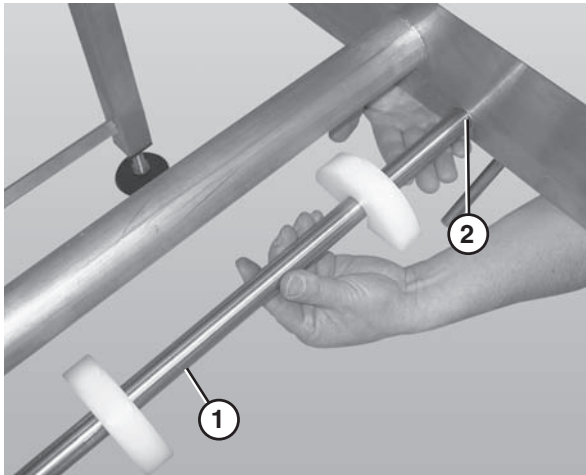

Figure 63
1. Remove the belt returns by pushing up on the return shaft (**Figure 63, item 1**) and sliding it through the large hole (**Figure 63, item 2**) in the frame.
2. Lower the opposite end of the return shaft (**Figure 63, item 1**) and slide it out of the frame.